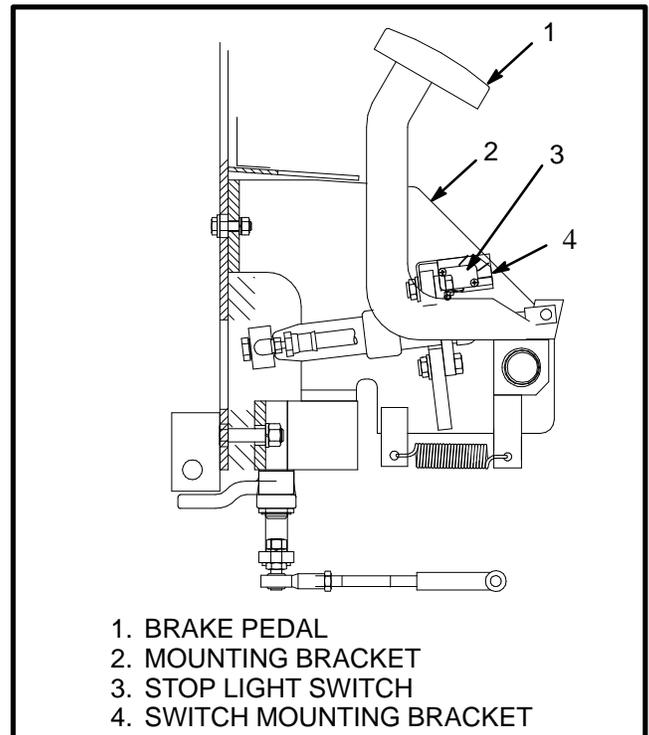

FIGURE 10 – STOP LIGHT SWITCH
2. Remove the floor plates. The stop light switch is between the pedal arm and the mount for the brake pedal. See FIGURE 10.